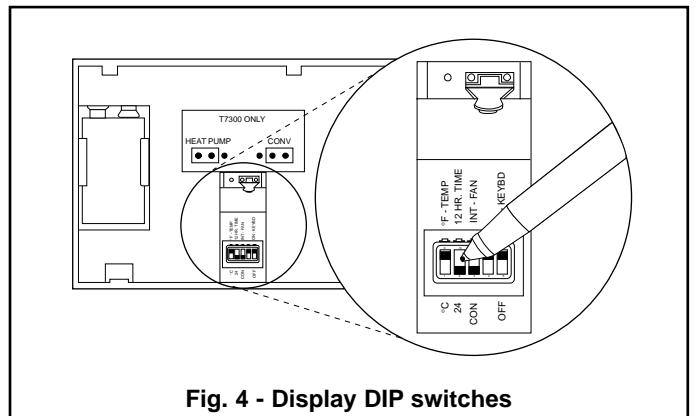

Fig. 4 - Display DIP switches
The thermostat DIP switches provide the thermostat with an interface to the single zone HVAC system. See Table 2 for DIP switch settings. The display DIP switches are located on the back of the thermostat. See Fig. 4. Set the DIP switches for the desired thermostat features and the system being controlled.
3. Connect the 12 pin (larger) ribbon cable to the display. See Fig. 4.
Important : To program the thermostat, 24 Vac is required (turn on System power) and the keyboard lockout switch (see Fig. 4) must be in the ON-KEYBD position.